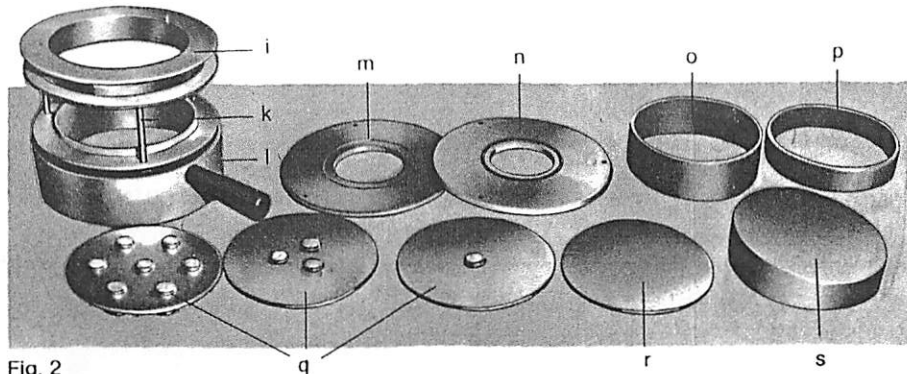

Fig. 2
**Description of the flask: fig. 2**